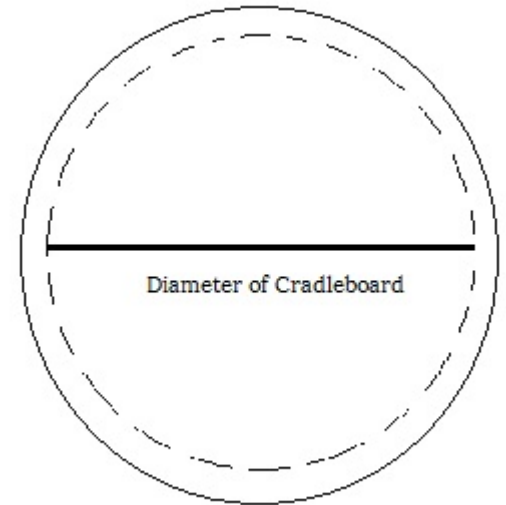

Fig. 3
- 8) Draw two circles of Tyvek using the length of the head area plus half an inch for seam allowance as the circumference, similar to Fig. 3, but using the head length measurement for the diameter.